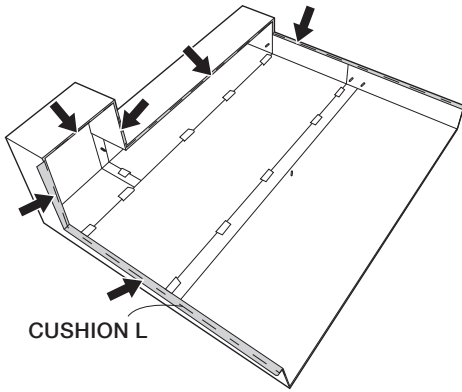

Figure 5A
E. Carefully turn over exhaust assembly. Remove adhesive backing from CUSHION L. The cushion should be applied to the flanges of the duct assembly as indicated by arrows. See Figure 5A.